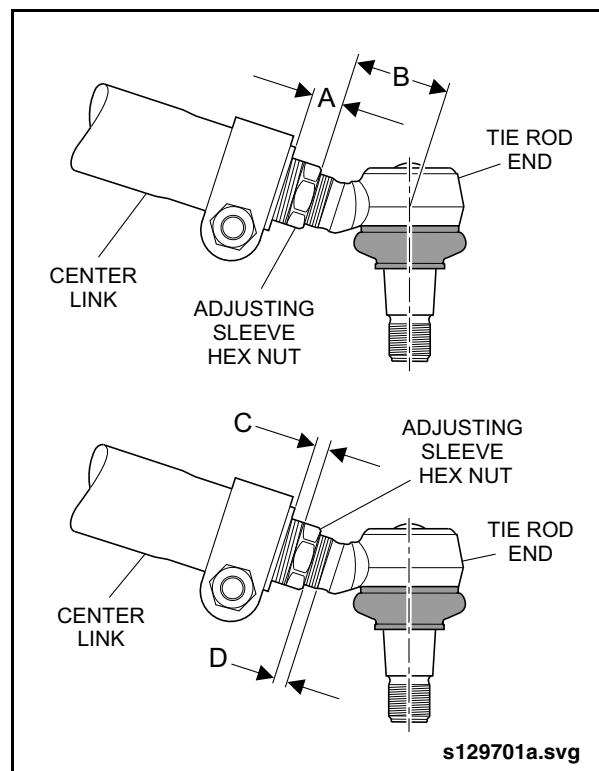

Fig. 1-20: Tie Rod End Adjustment
1. Thread adjusting sleeve into center link until the end of the hex head on the sleeve is 0.708 ± 0.275 in. (18 ± 7 mm) from the end of the center link. Refer to dimension “A”. See “Fig. 1-20: Tie Rod End Adjustment” on page 19.